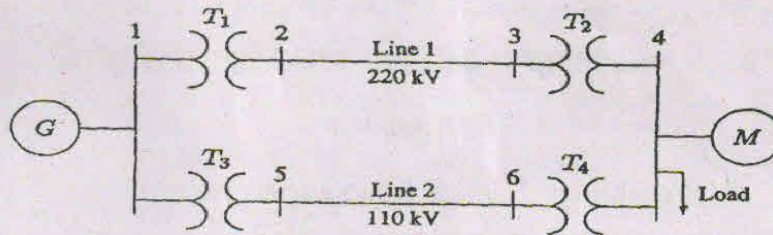

Fig. 11 (a)
11. (a) The one line diagram of three phase power system is shown in Fig. 11(a). Select a common base of 100 MVA and 22 kV on generator side draw the impedance diagram in per - unit